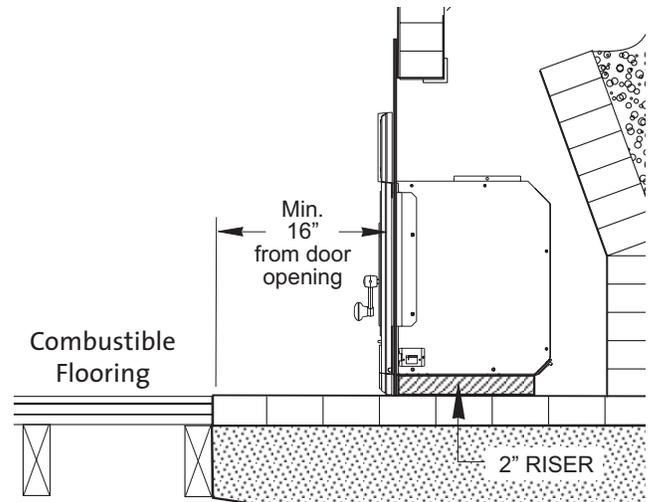

Figure 4. Required hearth protection if flush with combustible floor materials. Riser Bar must be installed.
- **Flush Hearth:** Where the hearth construction is flush with combustible floor materials, the insert must be elevated with use of the 2" Riser Bar supplied. See fig. 4.